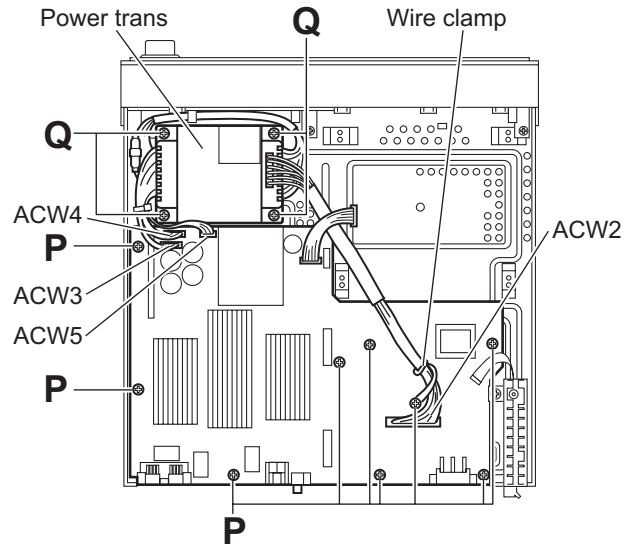

Fig.14
3.1.10 Removing the main board (See Fig.14)
3.1.11 Removing the power trans (See Fig.14)